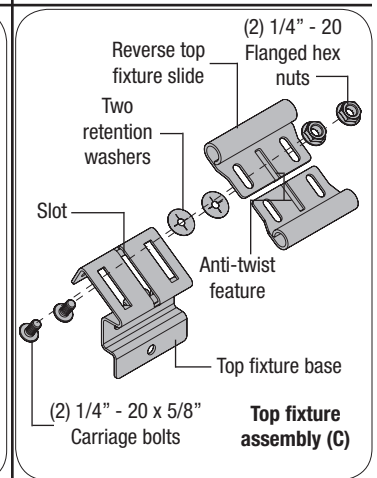
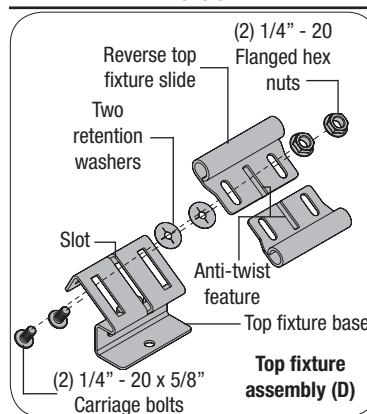

FIG. 3.6
FIG. 3.7
**NOTE:** Depending on your application, you may need to reverse the top fixture slide for more adjustment, if needed, prior to securing it to the top fixture base. Remove the top fixture slide by removing the two 1/4" - 20 x 5/8" carriage bolts, two retention washers and two 1/4" - 20 flanged hex nuts. Flip the top fixture slide in the opposite direction. Loosely fasten the top fixture slide to the fixture using two 1/4" - 20 x 5/8" carriage bolts, two retention washers and two 1/4" - 20 flanged hex nuts, as shown in **FIG. 3.6** or **FIG. 3.7**.